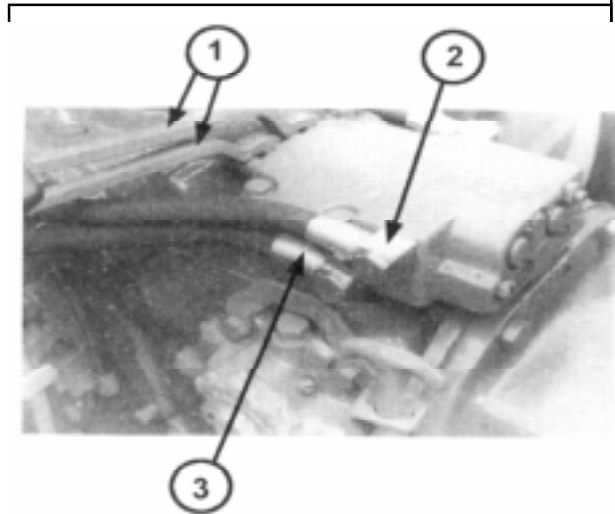

Figure 4
1. Clean the area around the remote control valve housing, Figure 4, and disconnect the remote hoses from the control valve.
5. Refer to Figure 4 for the correct installation of the FT-60 remote control valve levers. Ensure the